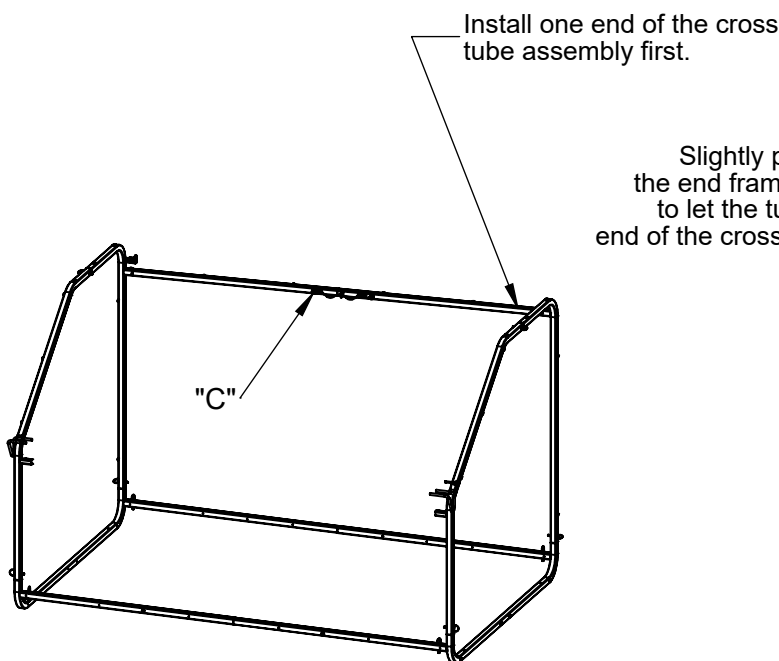

Figure 13.1
STEP 5: Take Cross tube assembly "C" and install onto the top lugs on the back side of the frame. Install one end onto the tube lug on the right or left side of the frame, figure 13.1. Once the tube assembly is fully installed and pinned into place on one end move the tube to where you can slide the lug into the free end on the opposite side. You will have to tilt the end frame out of the way slightly to let the lug clear the tube and slide inside it, refer to figure 13.3. Once tube lug is fully inserted into the tube pin it into place.